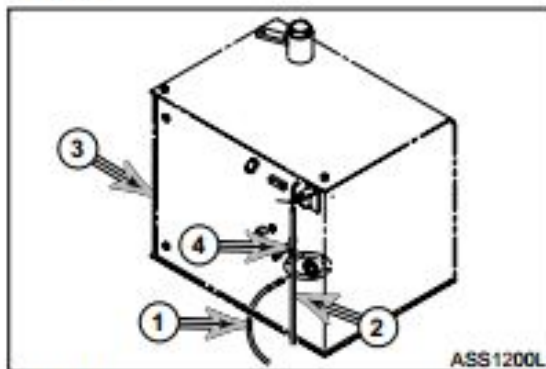

Figure 7
10. Tag and disconnect fuel supply line (1, Figure 7) and fuel return line (2) from Fuel tank (3) and carefully drain remaining fuel from lines.
11. Remove clamp (4, Figure 7) holding fuel return line (2) to tank (3).